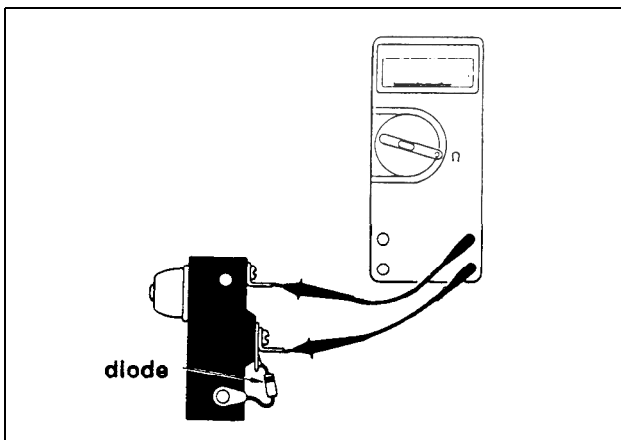

FIG. 1.1.33
**Correction:** Check that connections are made and are tight. Check for corrosion on terminals and clean as required. Check function of fuel pump switch. With the switch open, the VOM should register an "0. L." condition (Fig. 1.1.33). With the switch closed (plunger released), the VOM should register continuity. Replace or adjust as needed.